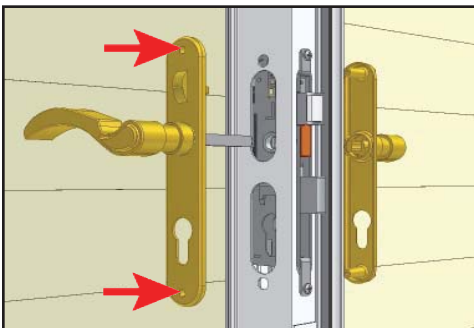

Figure 5
4. With handle levers held horizontal, install both handle assemblies onto the door. The spindle will pass through the square hole in the lock case and into the other handle. Attach trim plates together using two #8 x 1 1/2" screws. (Figure 5)